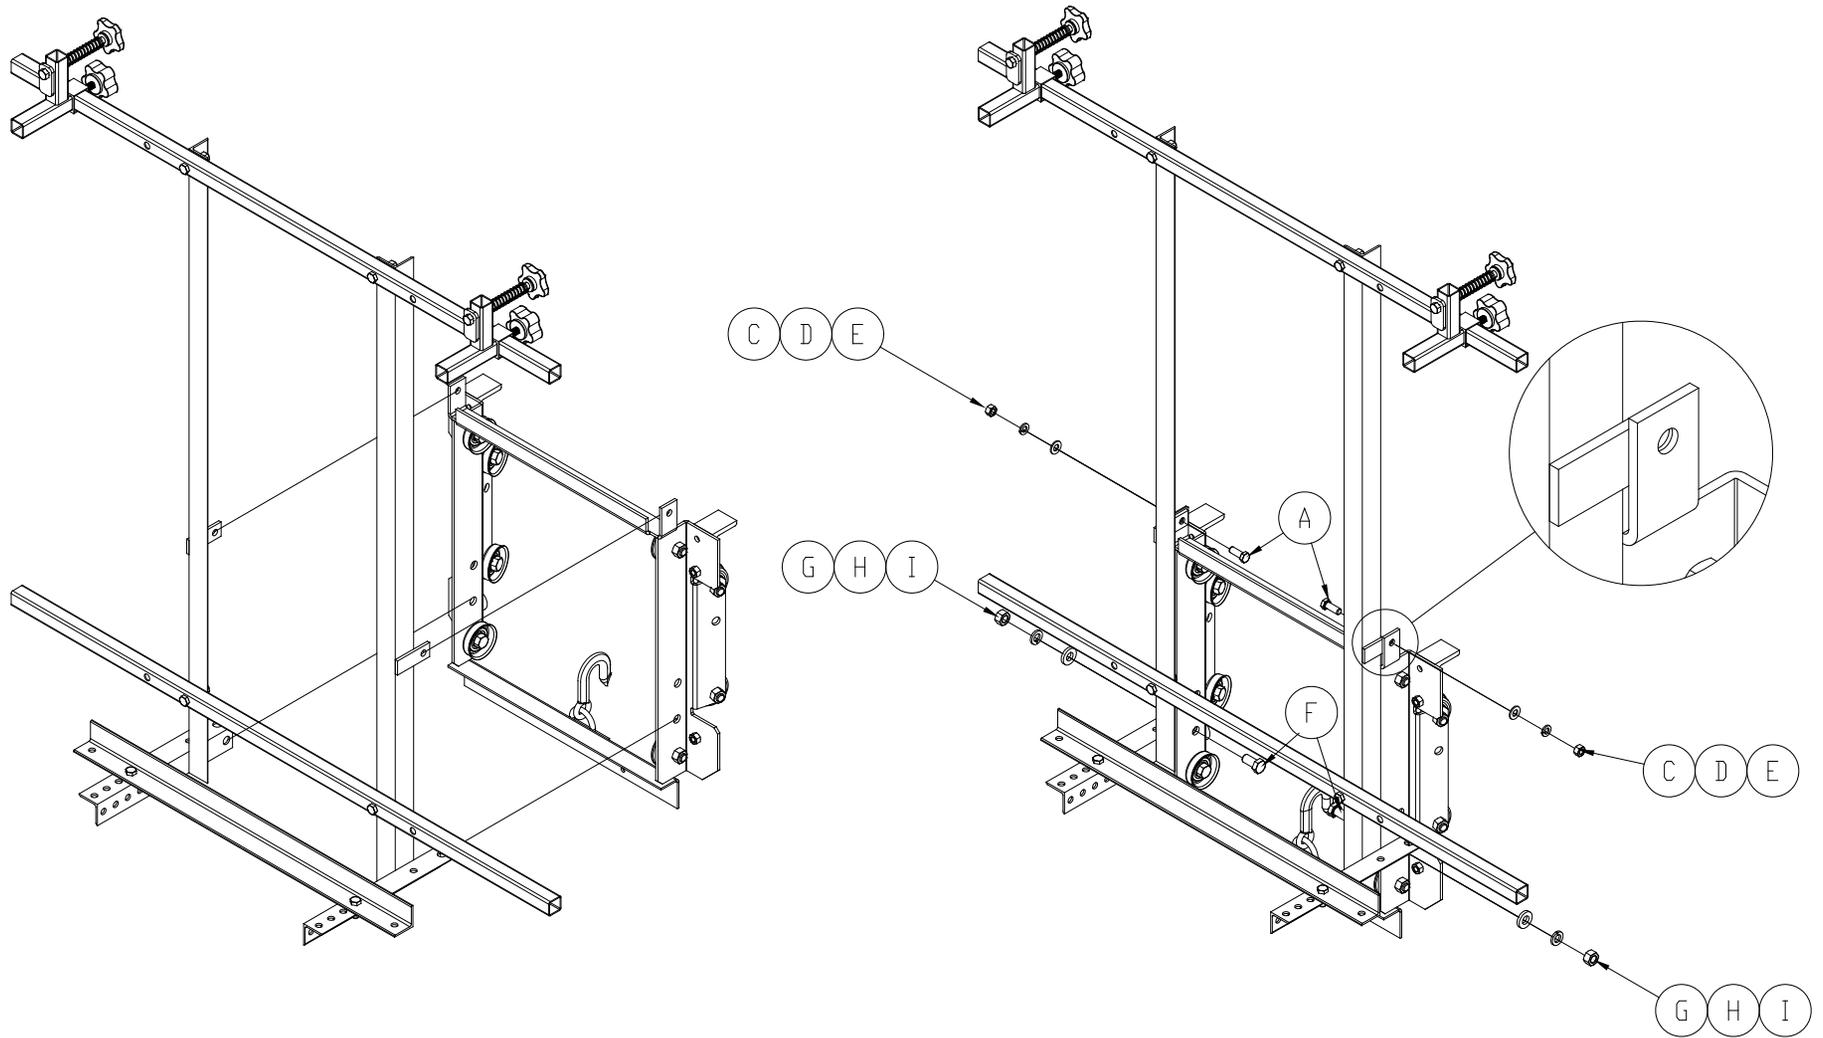

Figure 2 Mounting Solar Panel Carrier onto to Platform Carriage
2. Mount the carrier onto the carriage as shown in Figure 2. Once the carrier is mounted onto the carriage, tighten all of the hardware.